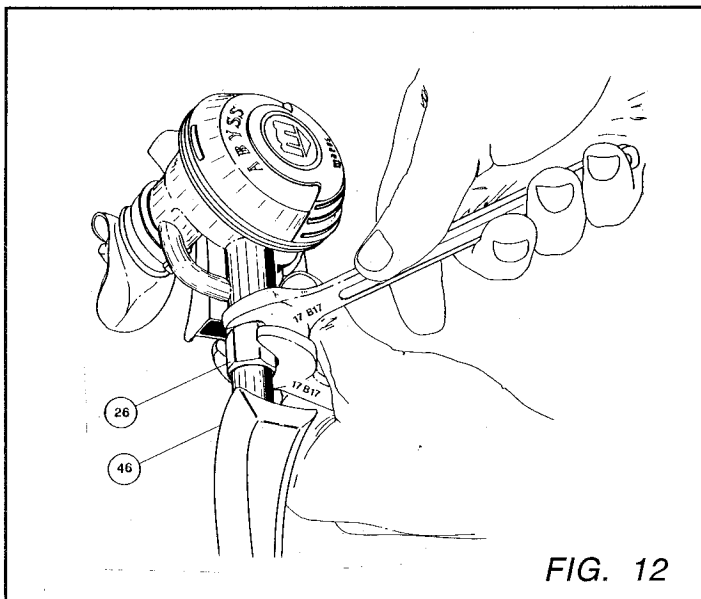

FIG. 12
2. Remove the hose protector (46) using two wrenches (B17) unscrew the hose (26) from the second stage (Fig 12).